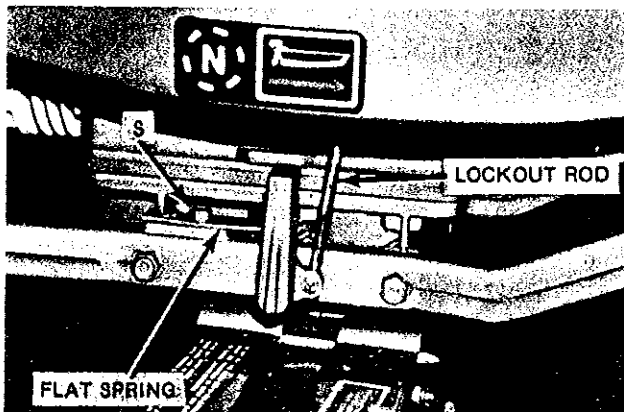

Figure 9. Unscrew screw(s) securing flat spring.
- B. Loosen screws(s) securing flat spring (Figure 9).